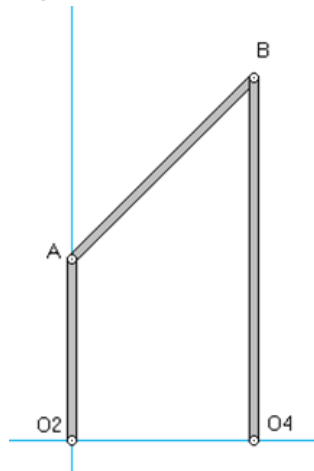

Fig. 3
4. The 4-Bar-Linkage as shown in Fig. 3, Link#2 rotates with constant angular velocity $\omega_2 = 1 \text{ rad/s}$ (CCW). If $O_2O_4=20\text{mm}$, $O_2A=20\text{mm}$, $O_4B=40\text{mm}$. Link#2(O_2A) and Link#4(O_4B) are perpendicular to the horizontal axis. Please use complex analysis method to solve for Link#3(AB) and Link#4(O_4B) angular velocities ω_3 and ω_4 , also the angular accelerations α_3 and α_4 . (10%)